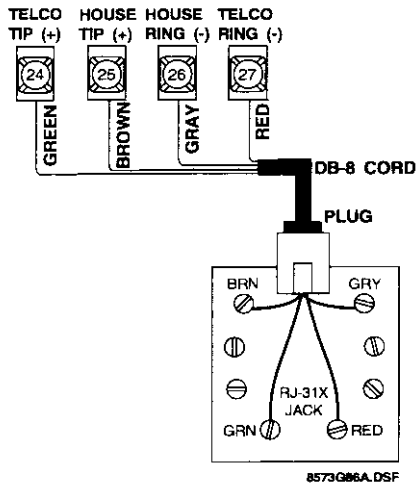

Figure 14. Connecting the DB-8 Cord to the Panel and RJ-31x Jack
- Hardwire Input Modules have eight DIP switches, of which only 5 thru 8 are used to set the unit number (see Figure 14).
1. Connect the green, brown, gray, and red flying leads from the DB-8 cord to panel terminals 24, 25, 26, and 27 (see Figure 14).
2. Insert the DB-8 cord's plug into the RJ-31X (see Figure 14).